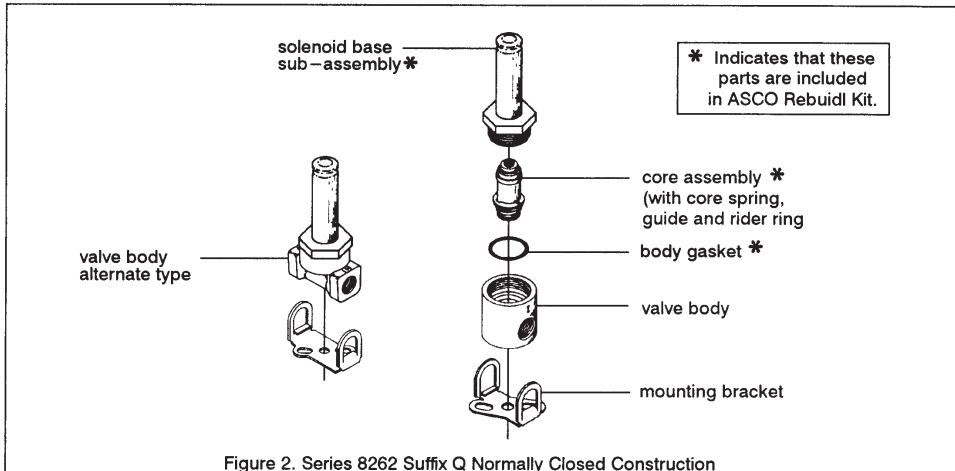

Figure 2. Series 8262 Suffix Q Normally Closed Construction
- **Normally Closed Construction** (Refer to Figure 2)